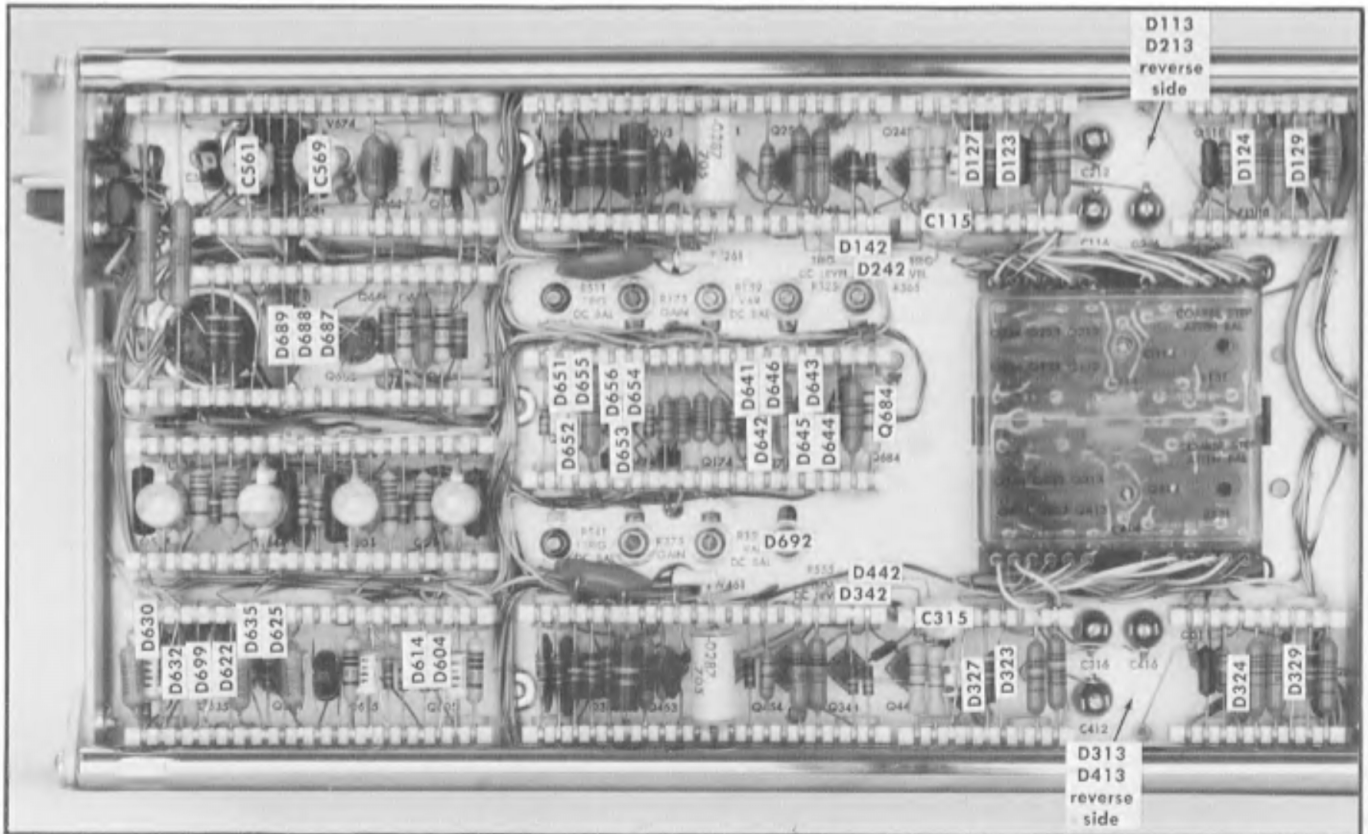

Fig. 4-7. Diodes and their locations.
**Diode Color Code.** The cathode end of each glass-encased diode is indicated by a stripe, a series of stripes or a dot. For most silicon or germanium diodes with a series of stripes, the color-code also indicates the type of diode. The cathode and anode end of metal-encased diodes can be identified either by the diode symbol marked on the body or by the flared end at the anode. (Fig. 4-7 shows the location of all the diodes.)
(1) Transistor Tester